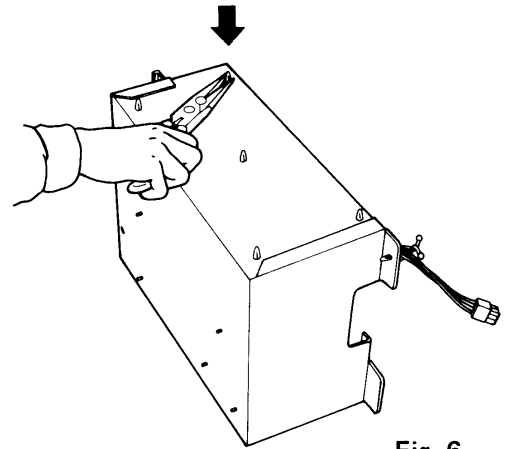

Fig. 6
- ① Disengage the electrical component box from the chassis.
② Use long-nose pliers from the outside of the box to unlock the 5 spacers of the PCB and push them into the box. Fig. 6